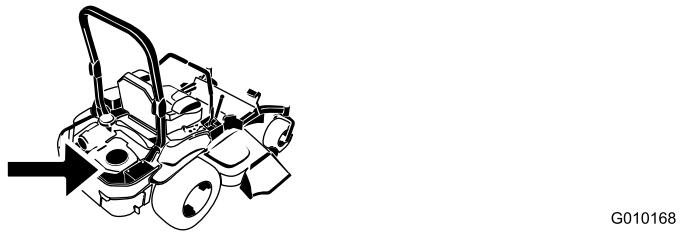

Figure 53
2. Change the engine oil filter (Figure 53).